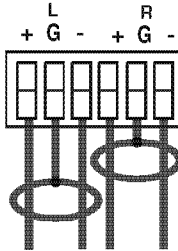

Figure 4: Connecting the Balanced Stereo Audio Input/Output
- A balanced input/output connection (see Figure 4)
Figure 4 illustrates how to wire a balanced input/output connection: